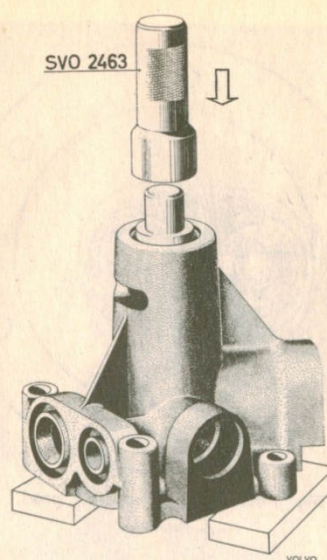

Fig. 1-88. Removing the shaft and impeller
3. Place the pump in a press. Fit tool SVO 2463 on the bearing outer race and press out the shaft, bearing and impeller. Fig. 1-88.
1. Press down the shaft and the bearing in the housing by using tool SVO 2463 in a similar way to that shown in Fig. 1-88 so far that the lock wire can be inserted into its groove. Fit the lock wire.